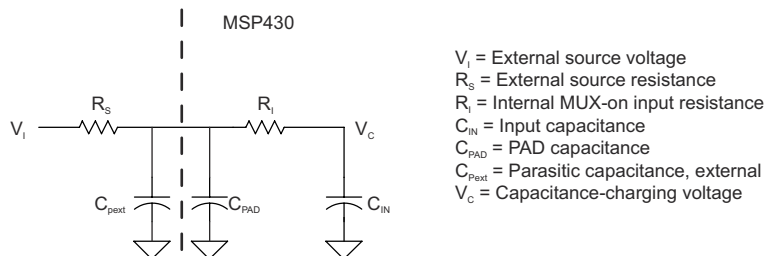

Figure 8-18. eCOMP Input Circuit
(1) See Figure 8-18 for eCOMP C_{IN} model.